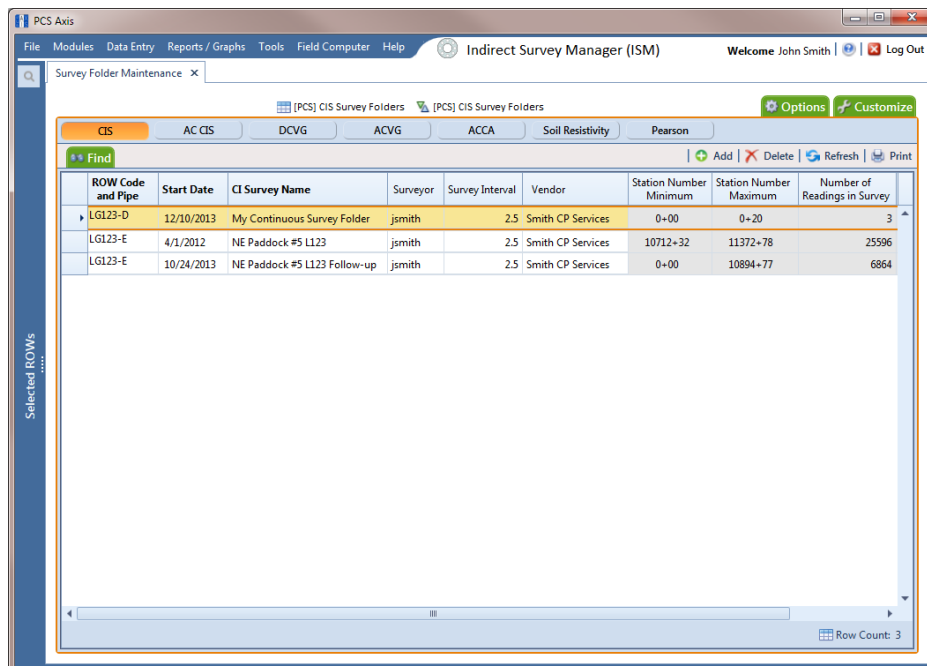

Figure 6-8. Survey Folder Maintenance
- 5 Select a pipeline segment in the grid that includes the continuous survey folder you want to delete. For example, the row of records for pipeline segment *LG123-D* are selected in the following figure (Figure 6-8, page 166).
- 4 Click a button labeled with the type of continuous survey that you want to add a layout theme. For example, click the **CIS** button  to add a layout theme for a continuous survey associated with close interval survey readings (Figure 6-8, page 166).
- 4 Click a button labeled with the type of continuous survey that you want to add a sorting theme. For example, click the **CIS** button  to add a sorting theme for a continuous survey associated with close interval survey readings (Figure 6-8, page 166).